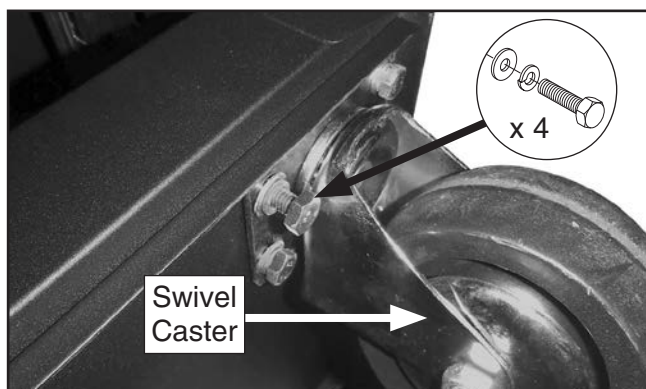

Figure 3. Caster installed.
5. Attach each caster using four M8-1.25 x 25 hex bolts, 8mm lock washers, and 8mm flat washers (see **Figure 3**).